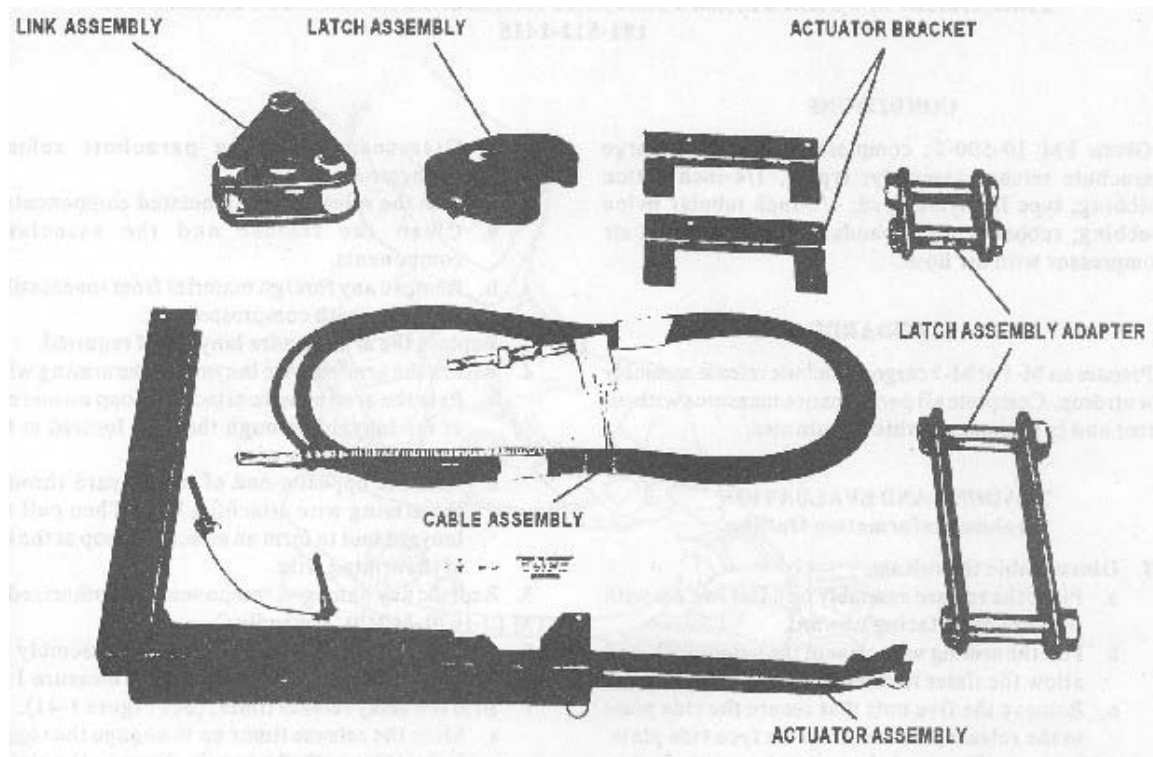

Figure 3-40
1. Inspect the components of the 35K EFTC for completeness and serviceability. (See Figure 3-40)